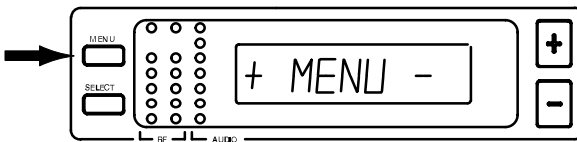

FIGURE 25
- Press the MENU button. The "+ MENU -" display appears, as shown in Figure 25.